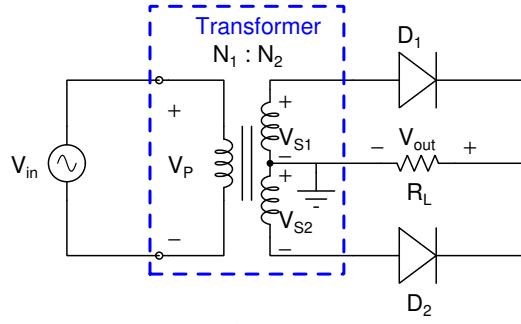

Figure 12
- Connect the circuit as shown in the figure 12 and apply V_{in} from function generator (amplitude 12 Vpp and 1 kHz), $R_L = 50 \text{ k}\Omega$.